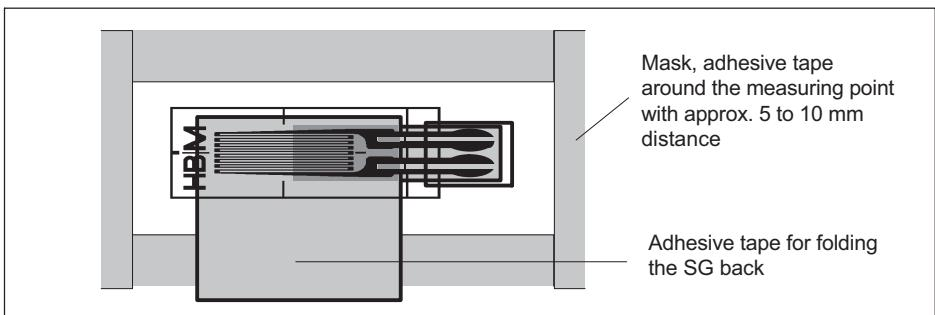

Fig. 5.4 Preparing the SG installation point
- Apply adhesive tape around the installation area at a distance of approx. 5 to 10 mm (see *Fig. 5.4*).